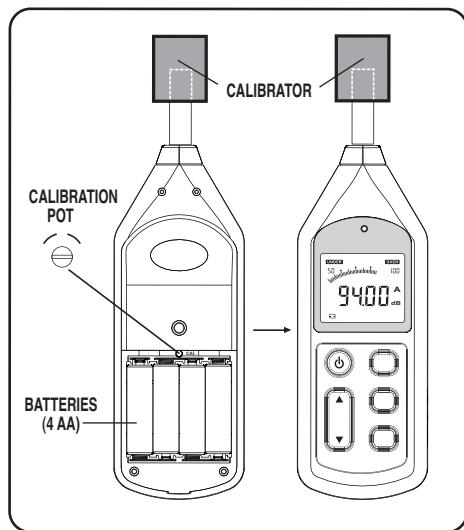

Figure 1
4. Adjust Calibration Pot until the display shows appropriate level (See Figure 1).